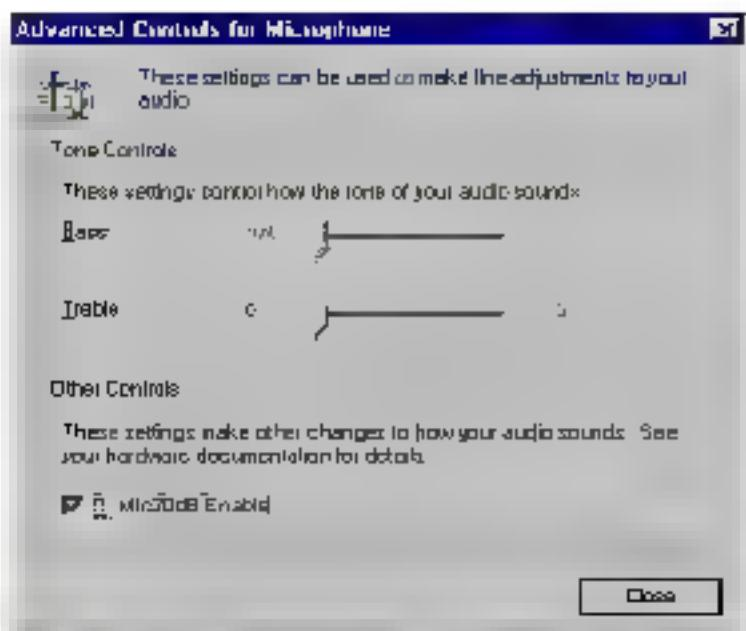

Figure 3-3 The Advance Controls for Microphone Windows
5) The Advanced Control for Microphone window will now appear as shown in Figure 3-3 below. Adjust the Bass and Treble as desired by dragging the slide bars horizontally. If you wish to enable the Mic20dB setting for your microphone, then click on Mic20dB Enable.